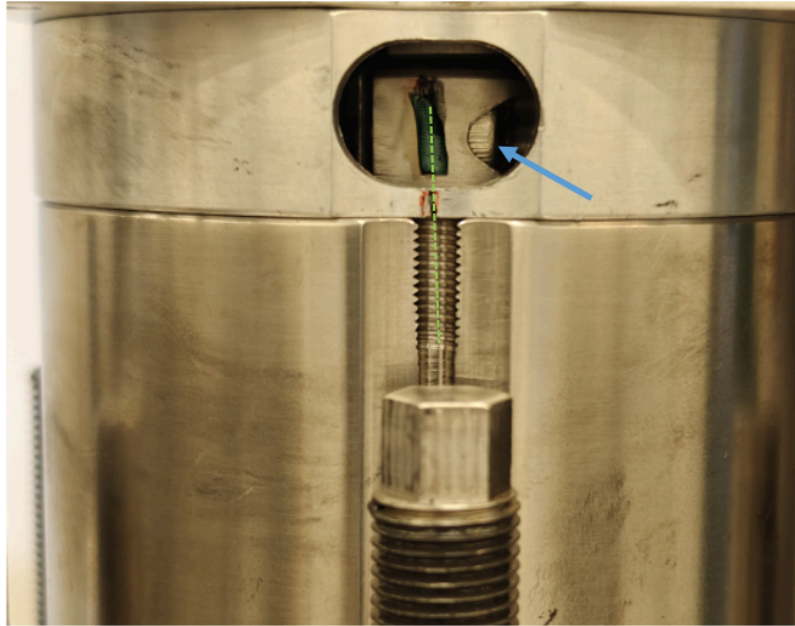

Figure 1
- a. Refer to figure 1 in the appendix